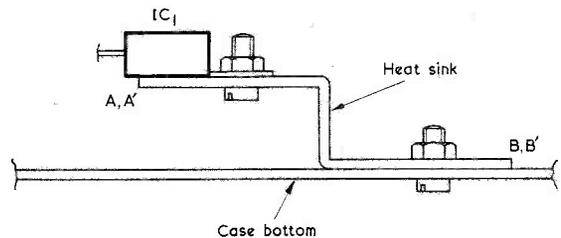

Fig. 7. How the heat sink is secured to the integrated circuit heat tab and to the bottom of the metal case.
i.c. requires a small heat sink which is made up as shown in Fig. 6. Fig. 7 gives a side view, illustrating how the heat sink is bolted to the i.c. and to the bottom of the metal case. The heat sink is made of aluminium of about 18 s.w.g., and it also provides the negative supply connection to the amplifier by way of the i.c. heat tab.